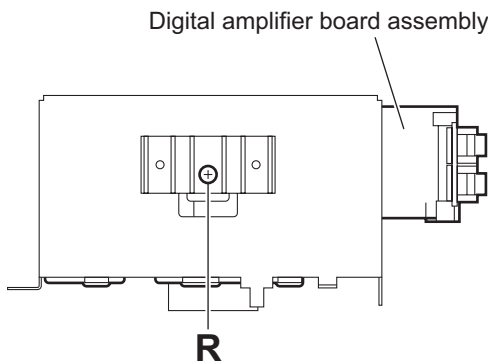

Fig.17
3.1.8 Removing the digital amplifier board (See Figs.17 to 22)
- From the forward side of the digital amplifier board assembly, remove the screw **R**. (See Fig.17.)